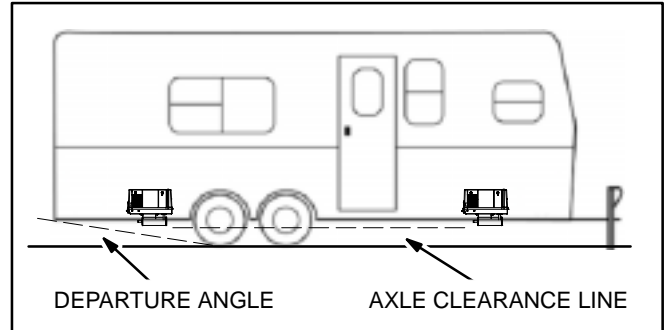

FIGURE 6. DEPARTURE ANGLE & AXLE CLEARANCE LINE
5. To prevent damage to the tail pipe and muffler while the vehicle is moving, keep it out of the approach and departure angles and above the axle clearance line (Figure 6).